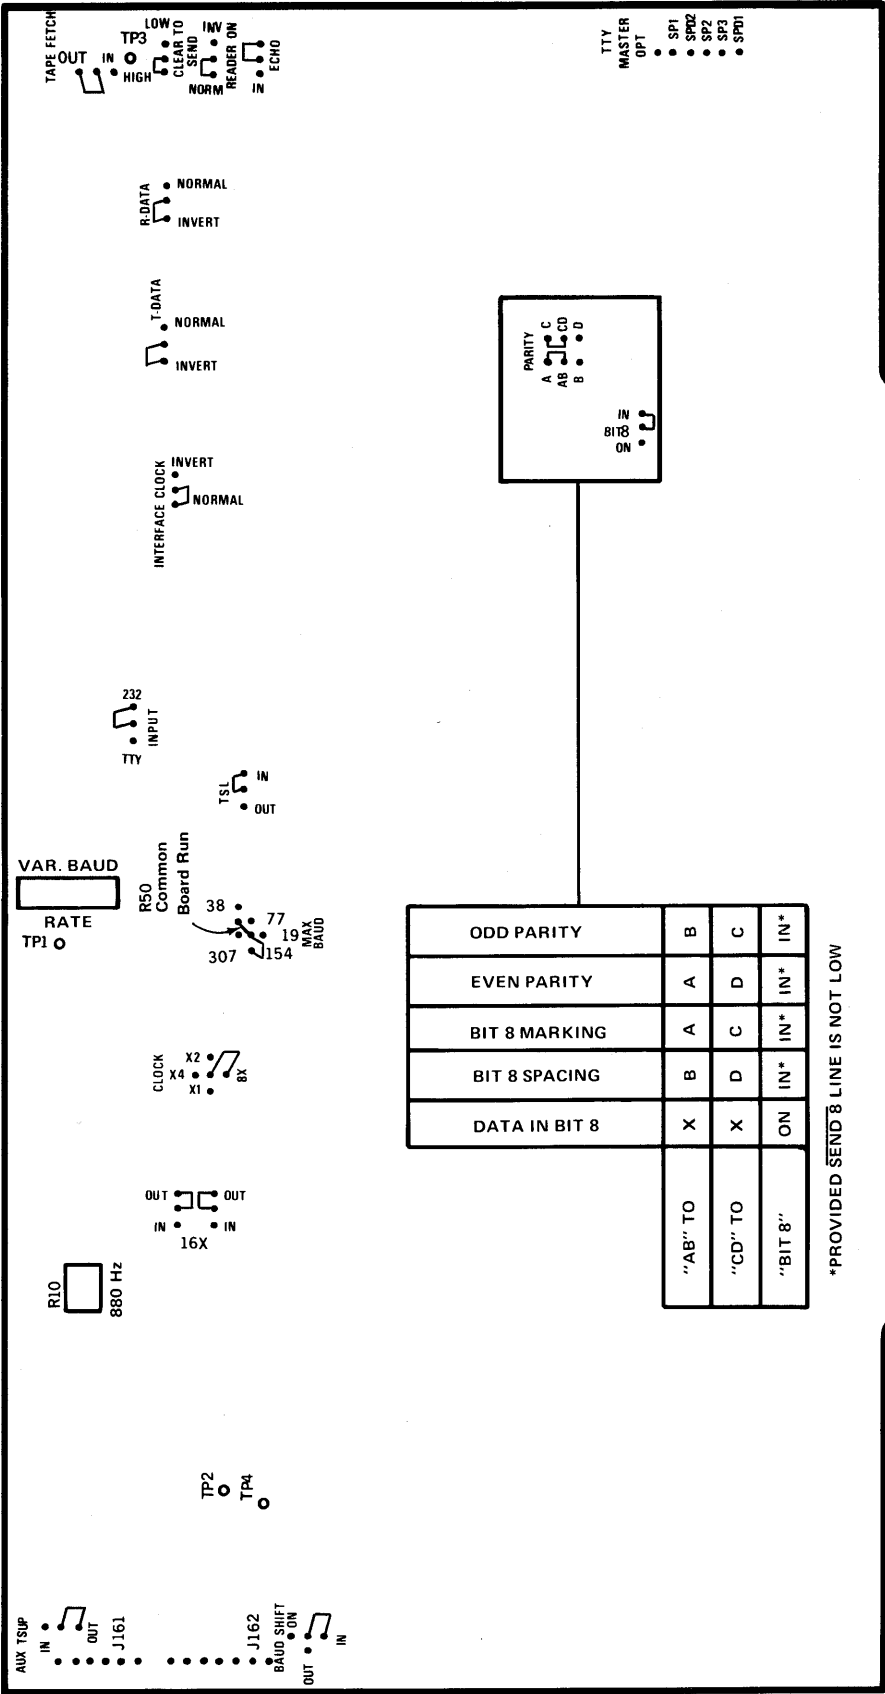

Fig. 1-2. 4010-Series TTY Port Strap Option.
- a. Install all straps on the Control Card as shown in Fig. 1-2.
Before connecting the various interconnecting cables, check the Interface unit switch and strap positions listed in Table 1-1 and Fig. 1-2.
3. This concludes the electrical connection of the terminal/Interdata Interface. Before turning the power on, check all switch and strap positions according to Table 1-1 and Fig. 1-2. Refer to the terminal Users Manual for specific operating instructions.